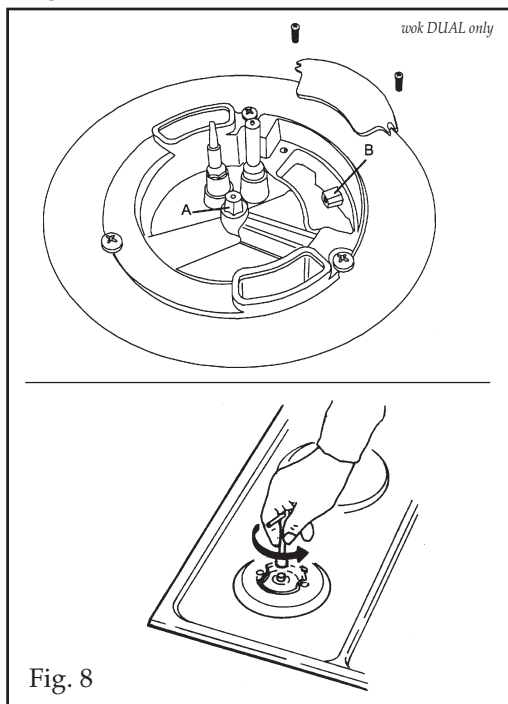

Fig. 8
- to adjust to the minimum, use a screwdriver on the screw placed on the tap (Fig. 8) after turning the tap to its minimum position. For LPG (butane/propane) screw tight.